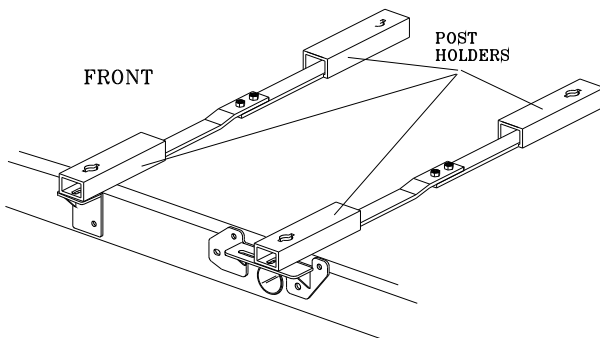

Figure 1
1. Slide the **drivers** side Front Post Holder (with weld nuts) over the frame just behind the gas tank. See Figure 1 on page 12.